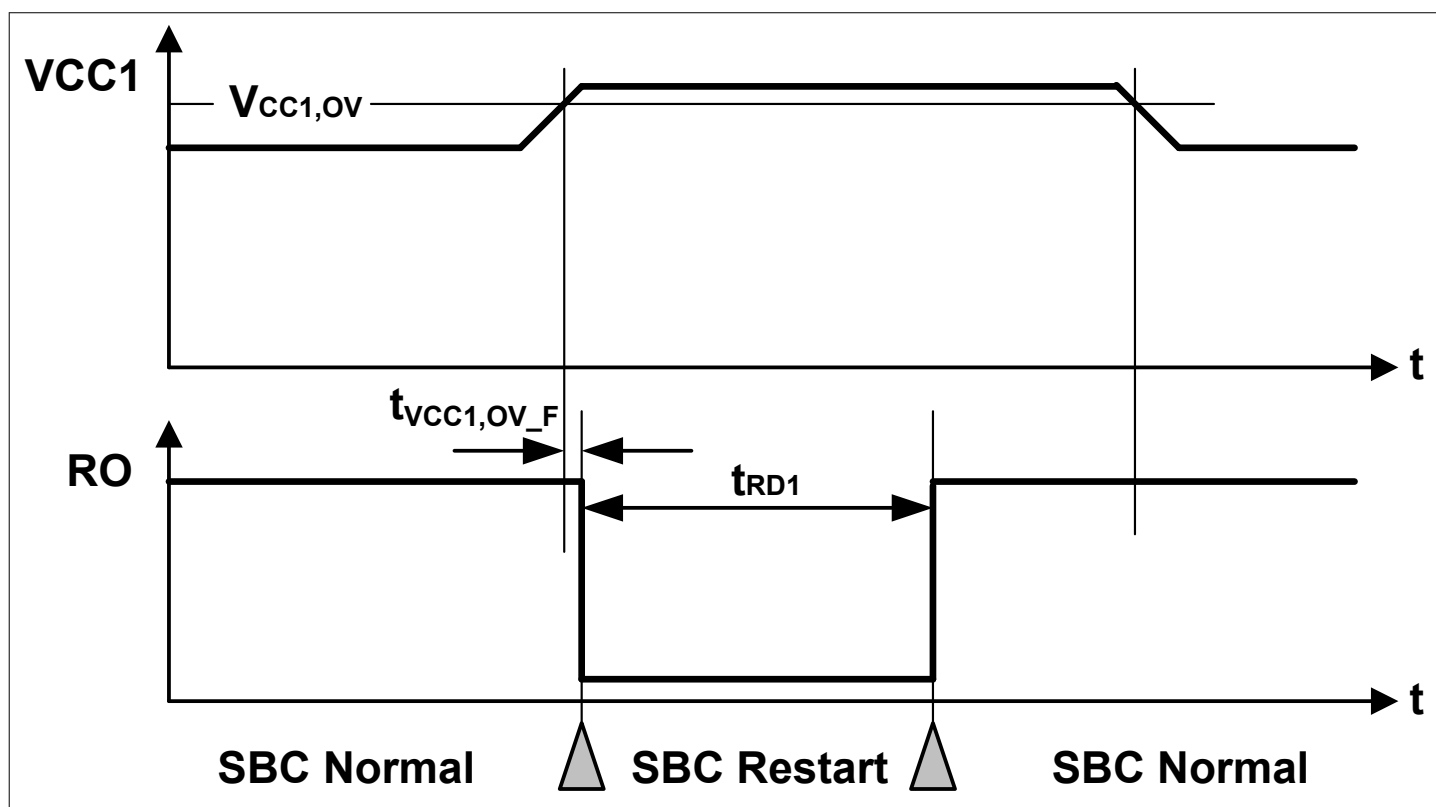

Figure 47 VCC1 Overvoltage Timing Diagram
- If the bit `VCC1_OV_RST` is set and `CFG_P` = '1', then SBC Restart Mode is entered. The FOx outputs are activated. After the reset delay time (`t_RD1`), the SBC Restart Mode is left and SBC Normal Mode is resumed even if the VCC1 overvoltage event is still present (see also Figure 47). The `VCC1_OV_RST` bit is cleared automatically;